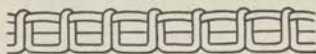

FIGURE 99.—Tight needle-thread tension (cross section).
(1) If the tension on the needle is too tight, or if that on the bobbin thread is too loose, the needle thread will lie straight along the upper side of the material (fig. 99).